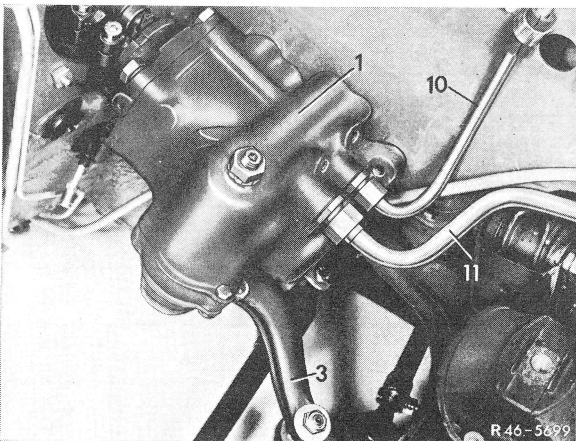

Fig. 2
**2** Loosen high-pressure expanding hose (10) and connecting pipe for return hose (11) on steering, while counterholding connecting pieces on steering (Fig. 2).